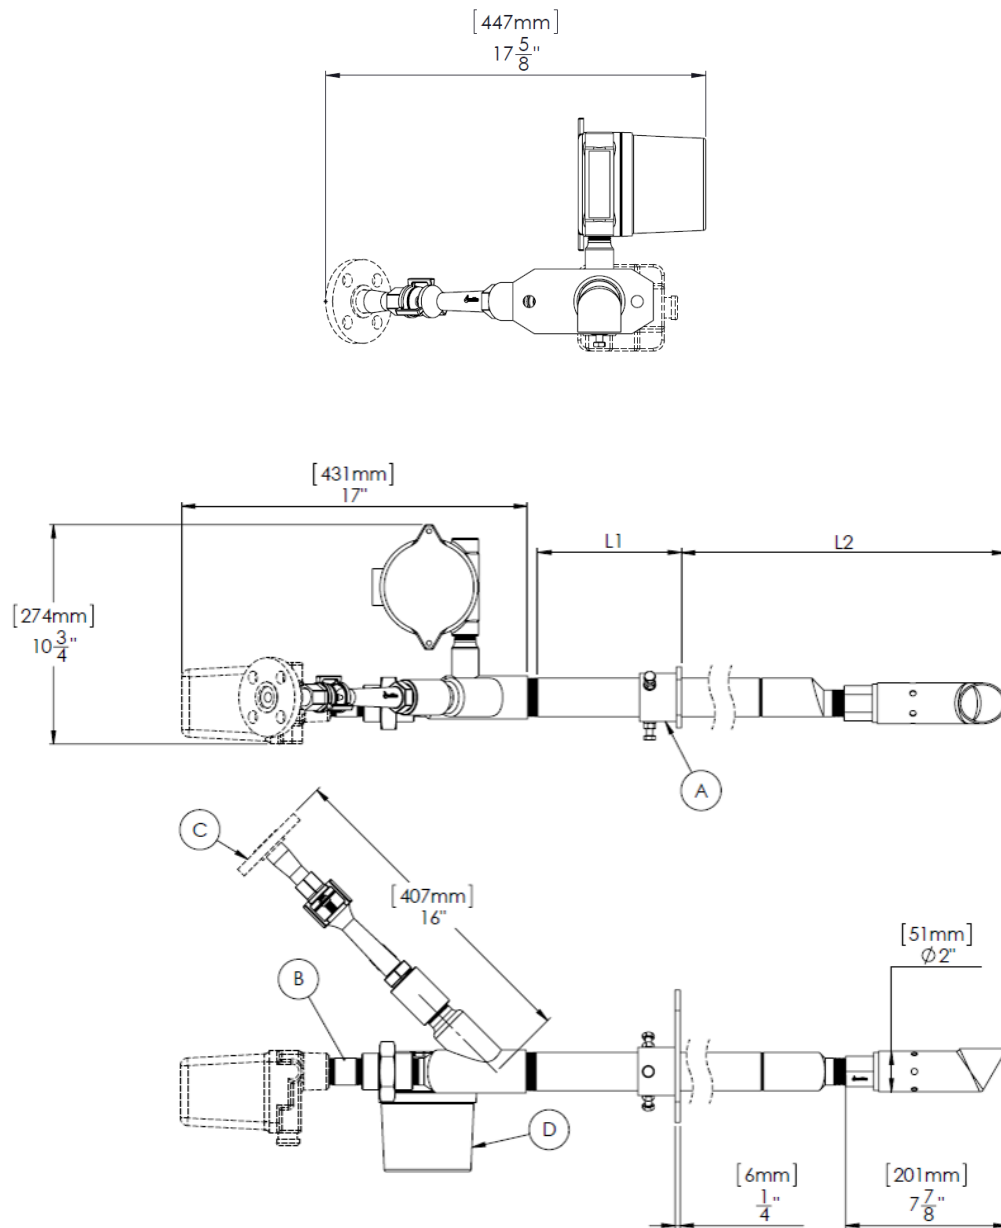

Figure 1 - Dimensions
Configurable options on the standard pilot are shown (Figure 1); Unifire will work with the end-user during procurement to match the pilot to existing appliances.
1. Riser Pipe Length [Figure 1 L2] and positioning of the mounting flange [Figure 1 L1] are specific to end users appliance.
2. Mounting flange [Figure 1 A] is specific to the end users appliance, a 2" entry for the pilot is a minimum requirement.
3. 1" FNPT connection [Figure 1 B] is provided as standard for connection to leading vendor UV flame scanners.
4. Mixer mount [Figure 1 C] to fuel supply line is specific to end users appliance.
5. HEI Ignition [Figure 1 D] is available in 24VDC, 120VAC and 240VAC variants.